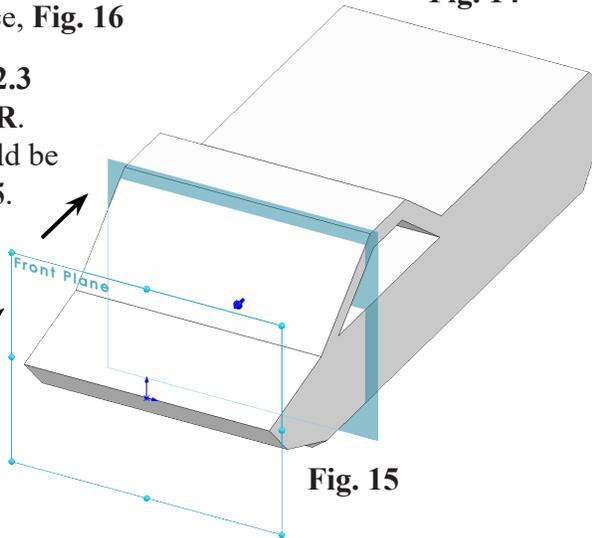

Fig. 15
Step 2. In graphics area **Ctrl drag Front plane to right (rear)** and release, **Fig. 15**.
The new plane should be towards rear, **Fig. 15**.